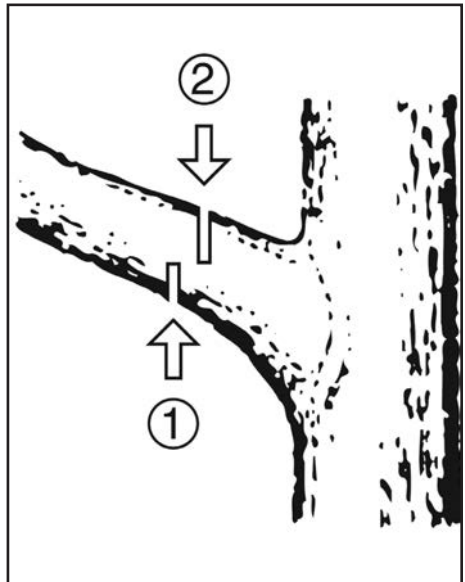

Fig. 14
**WARNING.** Do not use an unstable foothold or ladder. Do not overreach. Do not saw above shoulder height. Always use both hands to hold the saw. First cut up from the bottom and finish down from the top, Fig.14.